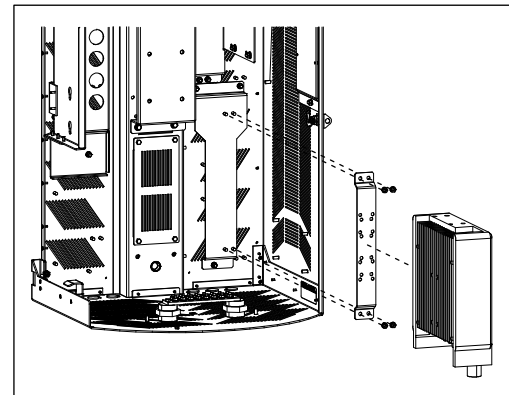

Figure 14 Attach 6302 and Bracket
3. Mount the bracket/power supply assembly onto the same mounting studs that previously held the AC-08 bracket (Figure 14). Use the Keps nuts removed in step one to secure the bracket to the SHRD60.